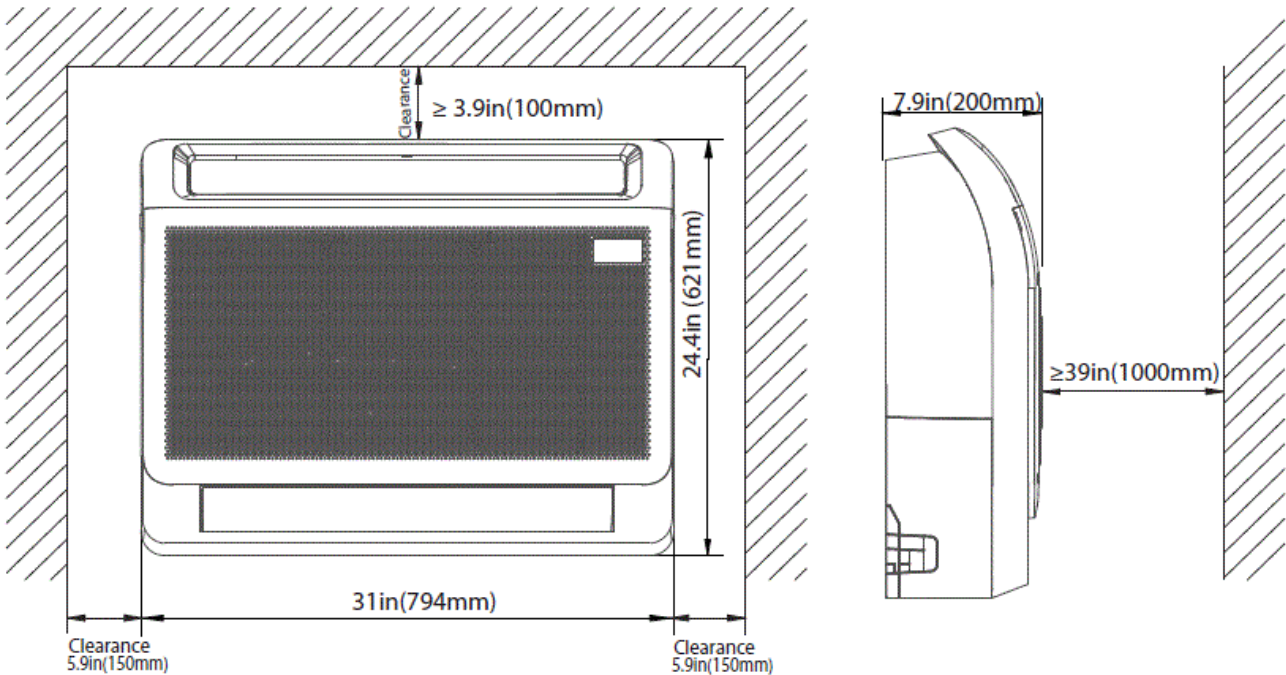

Fig. 4 – Dimensions and Clearances
- **Clearance** – Provide adequate clearance for airflow (Fig. 4).